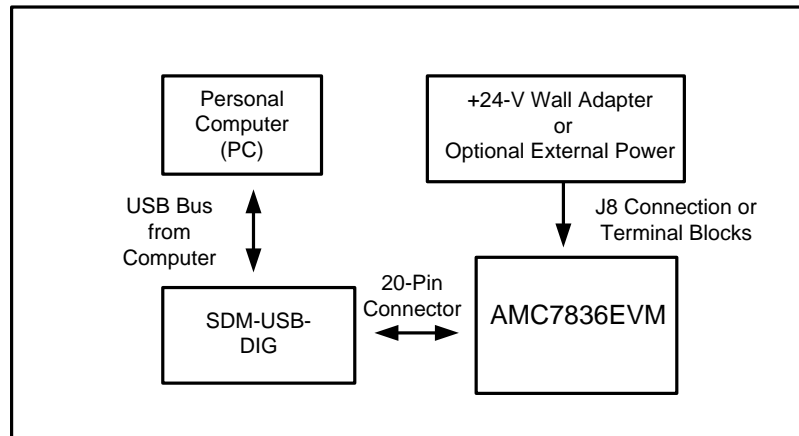

Figure 1. AMC7836EVM Hardware Setup
This section provides the overall system setup for the EVM. A personal computer (PC) runs software that communicates with the SDM-USB-DIG platform, which generates the power and digital signals used to communicate with the EVM board. The EVM includes a +24-V wall supply that provides power to on-board power regulators (LDOs), which regulate the analog and digital supplies. Connectors are also included on the EVM board for optional, external power supplies. Figure 1 displays the system setup for the AMC7836EVM.